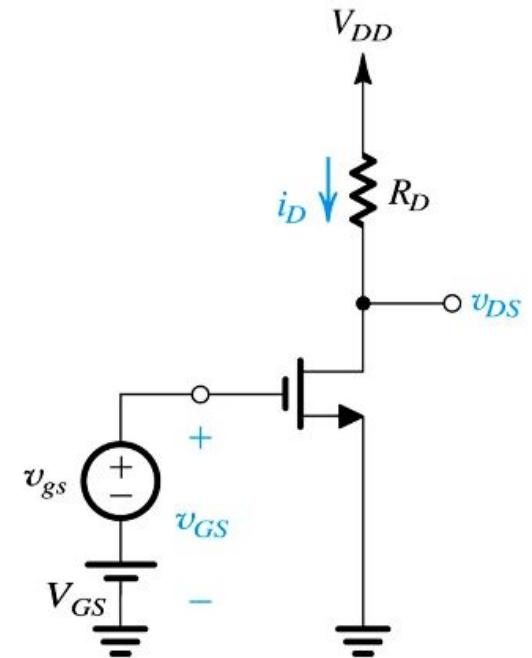

Figure 5.29:
Figure 5.29: The MOSFET amplifier with a small time-varying signal $v_{gs}(t)$ superimposed on the dc bias voltage V_{GS} . The MOSFET operates on a short almost-linear segment of the VTC around the bias point Q and provides an output voltage $v_{ds} = A_v v_{gs}$
- **Problem Statement:** Consider the amplifier circuit shown in Figure 5.29(a). The transistor is specified to have $V_t = 0.4\text{V}$, $k'_n = 0.4\text{mA/V}^2$, $W/L = 10$, and $\lambda = 0$. Also, let $V_{DD} = 1.8\text{V}$, $R_D = 17.5\text{k}\Omega$, and $V_{GS} = 0.6\text{V}$.
Figure 5.32: Operation of the MOSFET in Figure 5.29(a) as a switch: **(a)** Open, corresponding to point A in Figure 5.31; **(b)** Closed, corresponding to point C in Figure 5.31. The closure resistance is approximately equal to r_{DS} because V_{DS} is usually very small.